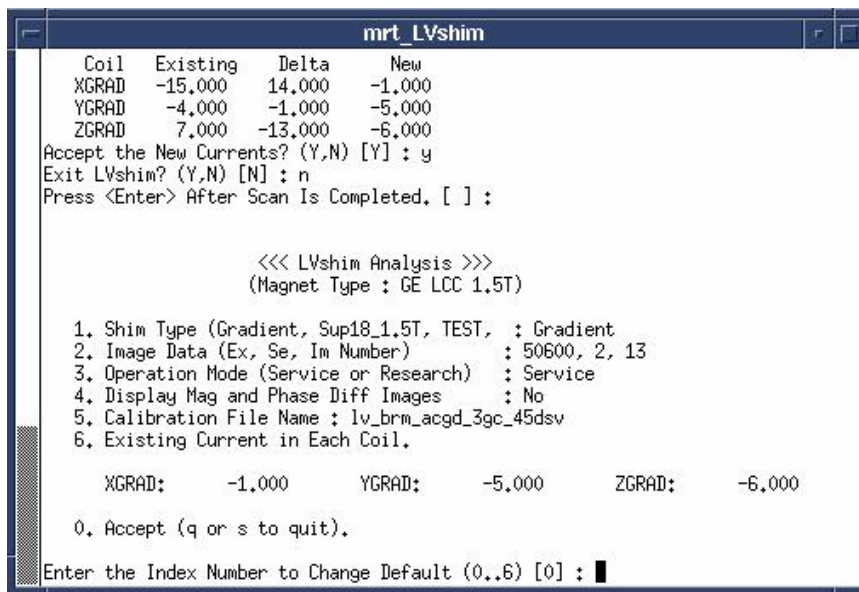

Figure 10
8. The LVShim tool will automatically select the 12 new images created by the last scan. Press the enter key to start the analysis. **Figure 10**